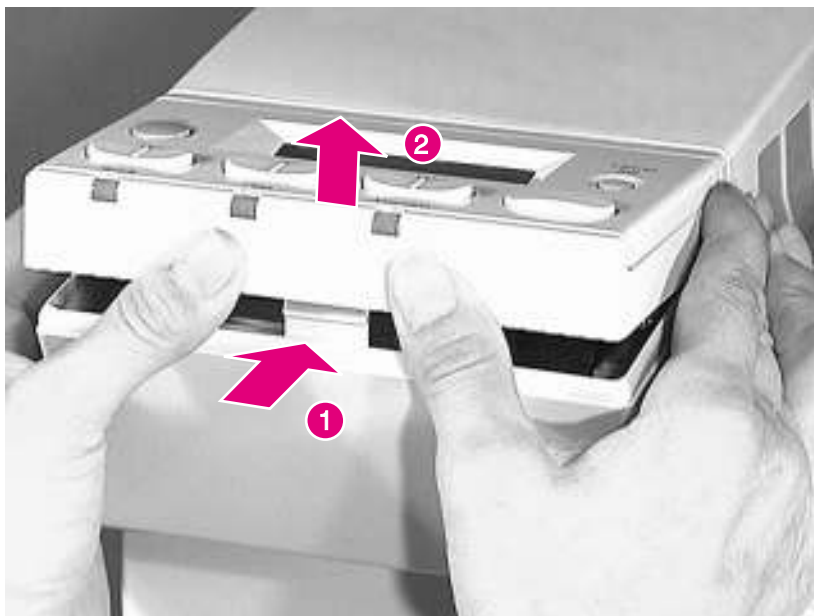
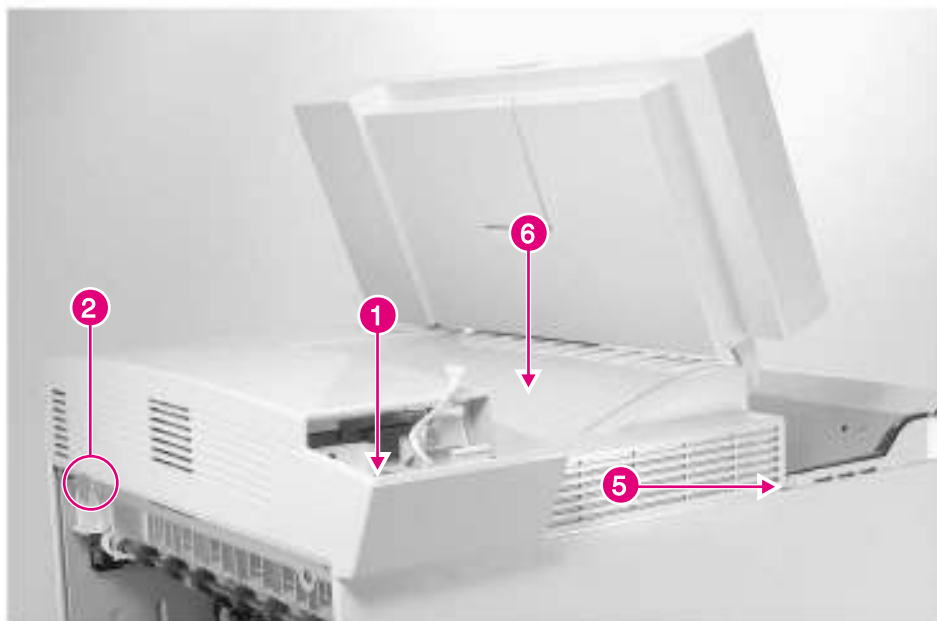

Figure 6-3 **Control Panel (1 of 2)**
Figure 6-10 Top Cover (1 of 2)
- 1 While pushing in on the center area (figure 6-3, callout), lift up on the forward edge of the control panel to release the plastic retaining tab.
- 1 Remove the Control Panel (see figure 6-3 on page 269), then remove 1 screw (figure 6-10, callout 1).
- 2 Open the Diverter Assembly access door, and remove 1 screw (figure 6-10, callout 2).
- 5 Lift (and hold) the top cover door up, and carefully pull out on the cover to release the retaining tab (figure 6-10, callout 5).
- 6 Hold the Face-down Bin (figure 6-10, callout 6) down while carefully and slowly lifting the top cover straight up until it clears the Face-down Bin Full sensor flag and the Delivery Unit.
- 1 Hold the top cover door up and the Face-down Bin (figure 6-10, callout 6) down while lowering the cover into position.
- Top Cover (see figure 6-10 on page 277)
- 2 Remove the top cover (see figure 6-10 on page 277).